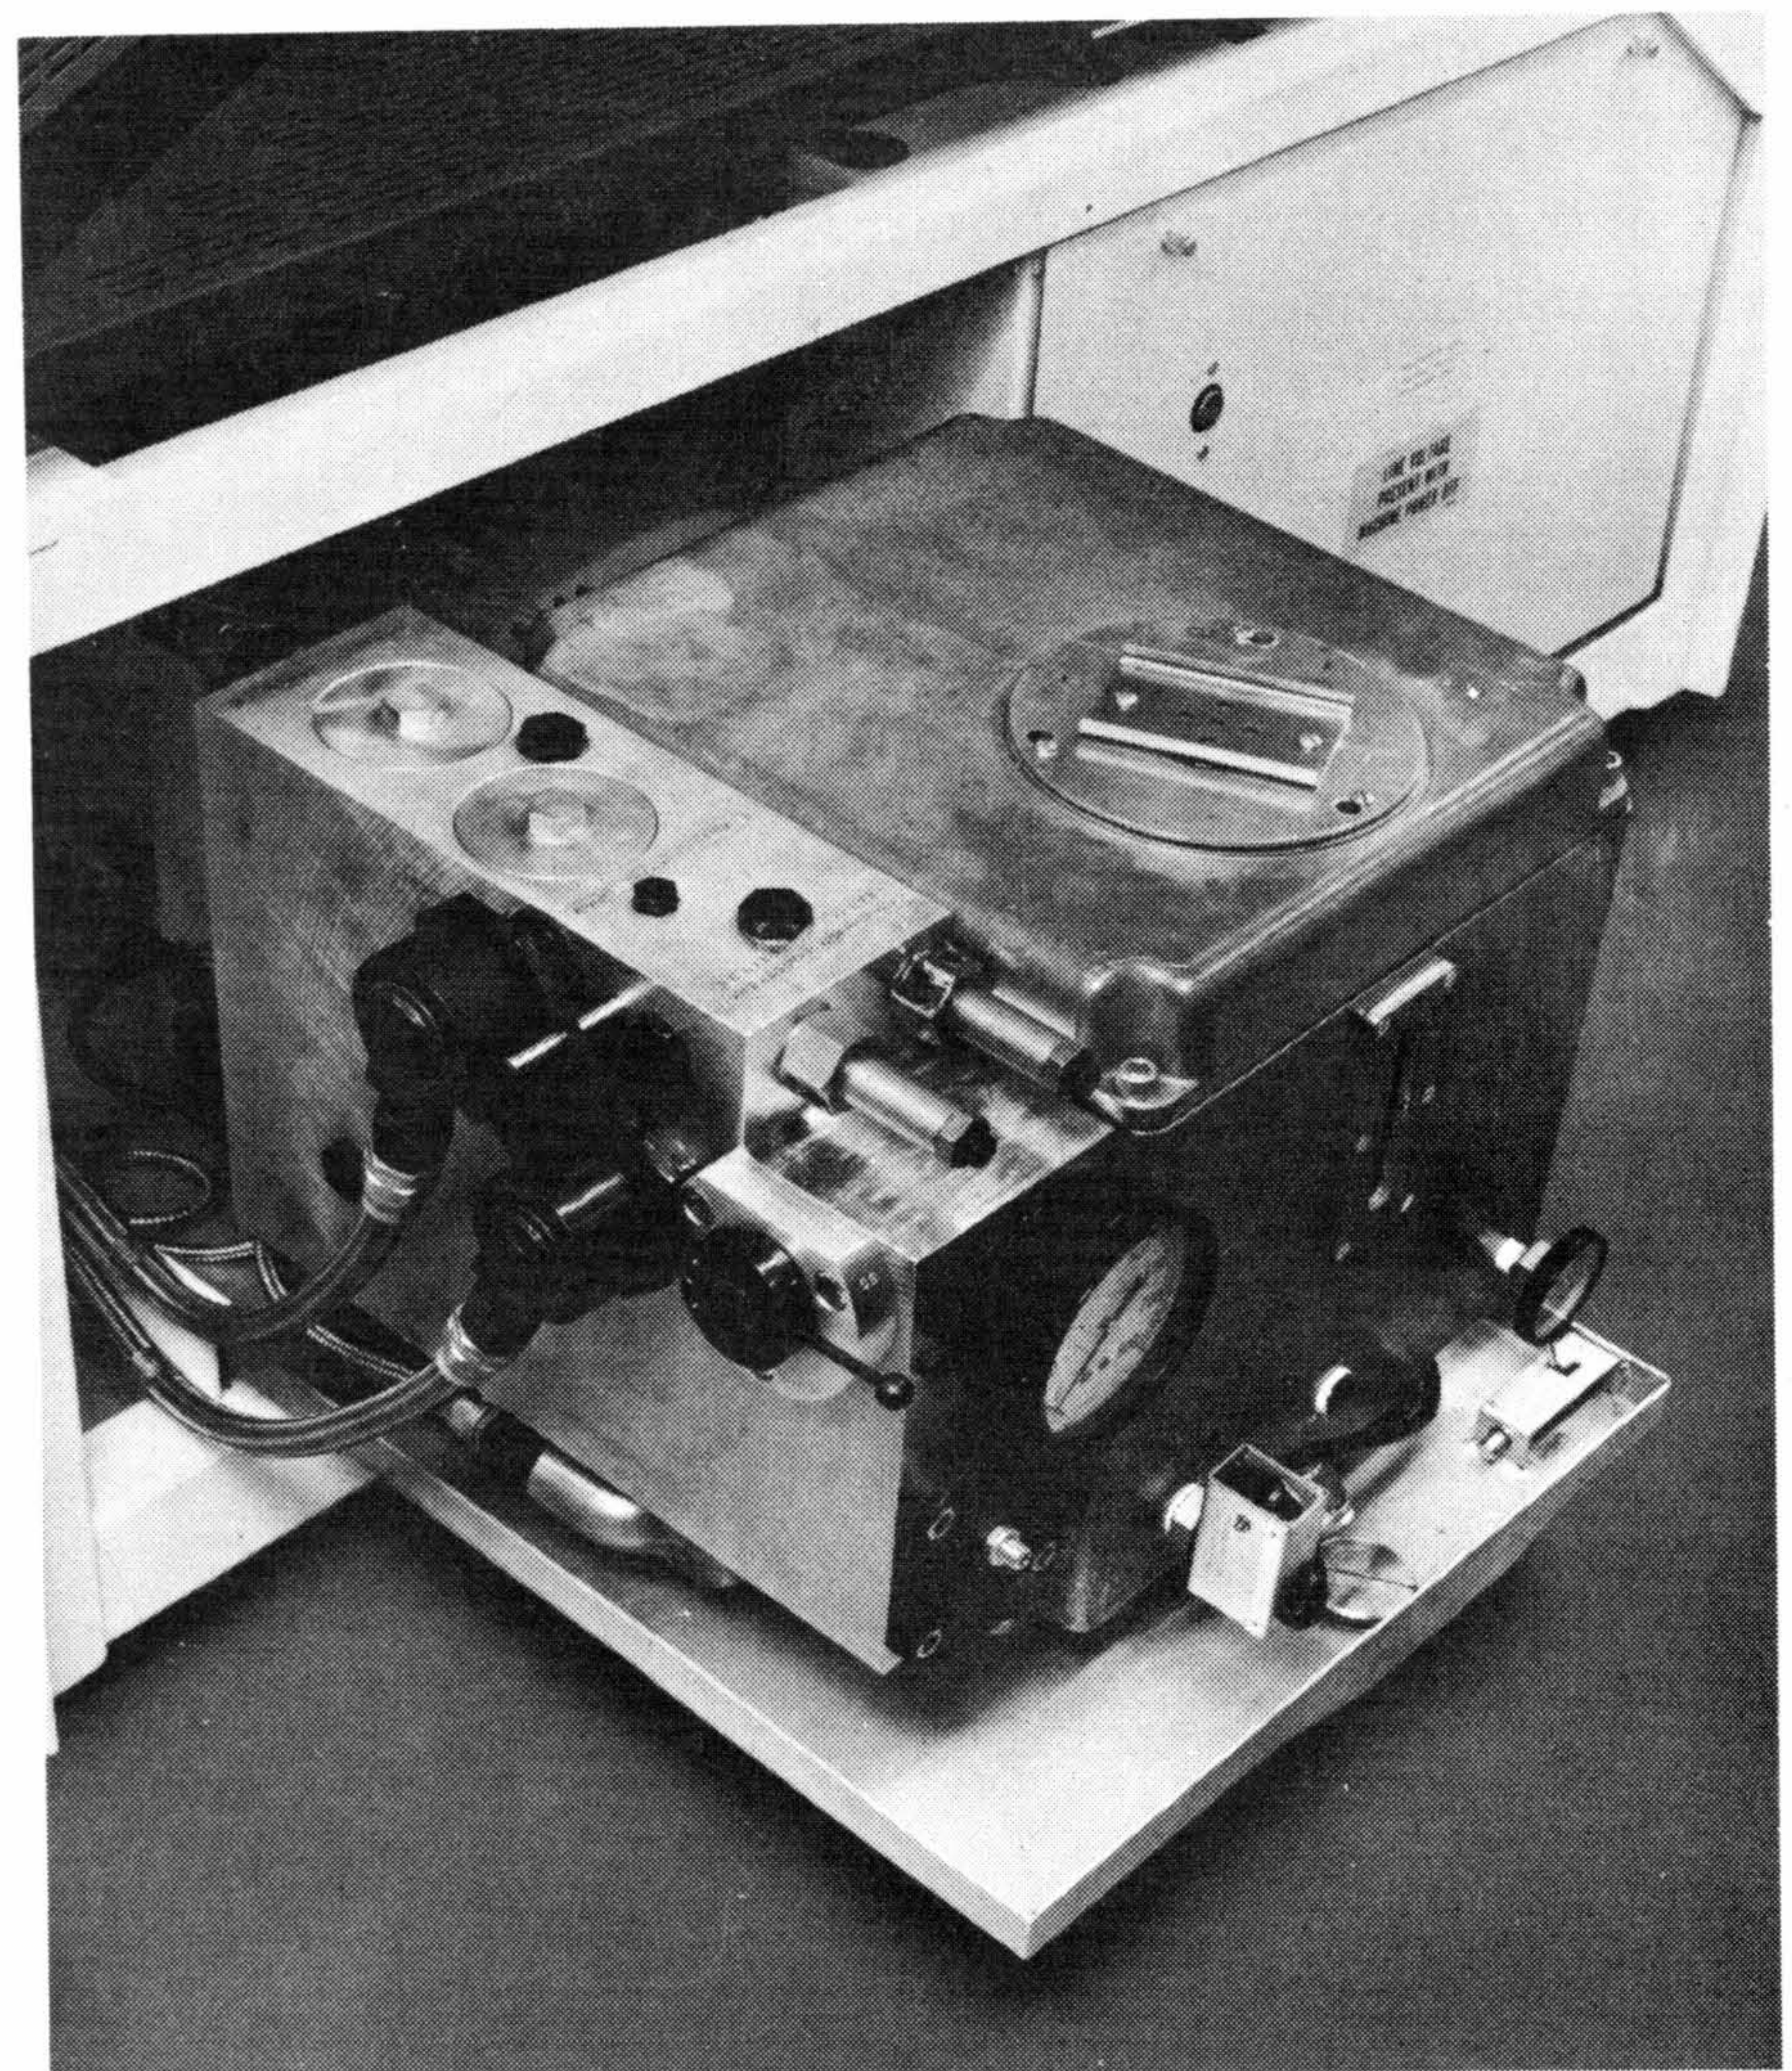

Figure 2-47. Hydraulic Power Supply in Servicing Position
HYDRAULIC POWER SUPPLY (Figure 2-47)
2. Slide unit out rear of machine to servicing position (Figure 2-47).